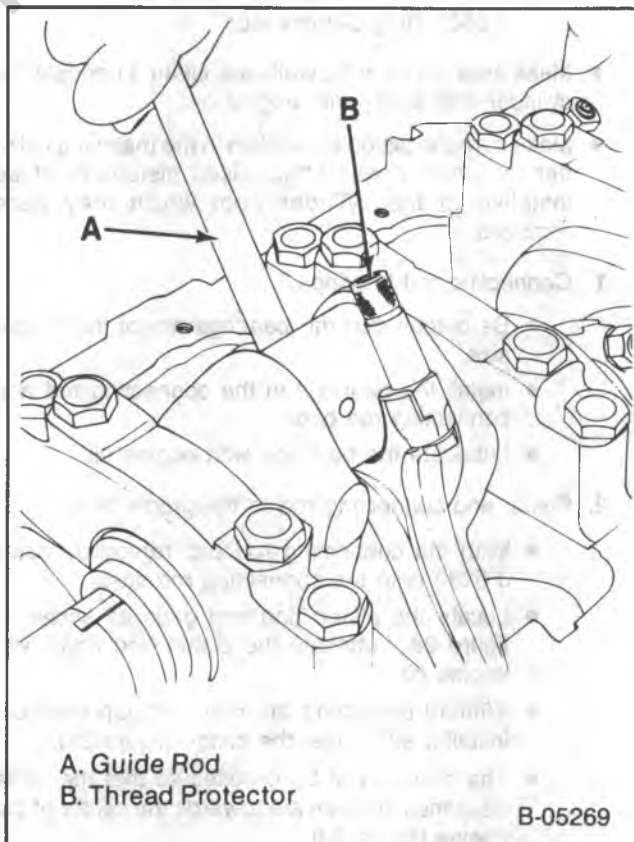
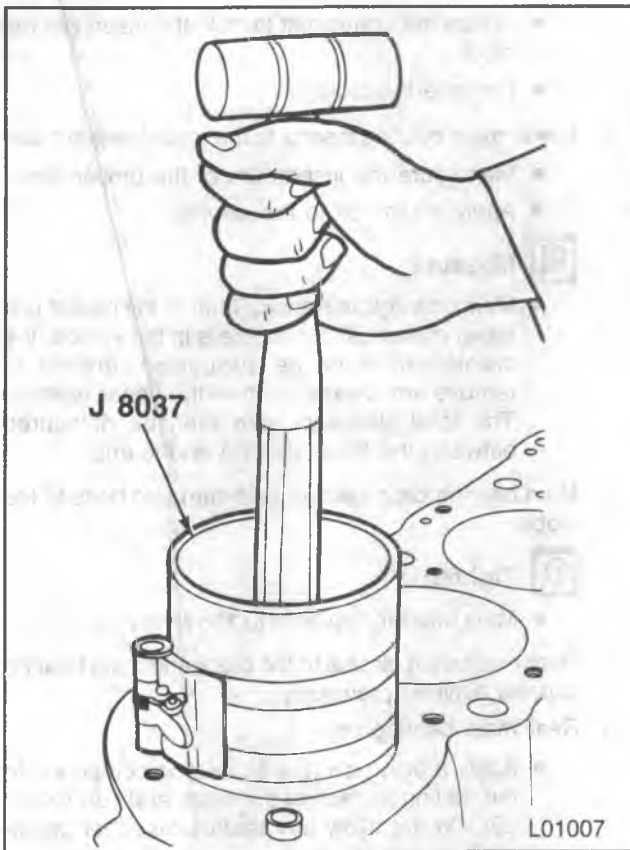

Figure 27 — Replacing the Connecting Rod and Piston Using J 5239
Figure 29 — Installing the Piston
↔ Remove or Disconnect (Figure 27)
- Attach J 5239 to the connecting rod bolts (figure 27).
Install or Connect (Figures 27 through 31)
- Without disturbing the ring end gap location, install J 8037 over the piston (figure 29).
- Place the piston in its matching bore. Using light blows with a hammer handle, tap the piston down into its bore (figure 29). At the same time, from beneath the vehicle guide the connecting rod to the crankpin with J 5239 (figure 27). Hold the ring compressor against the block until all rings have entered the cylinder bore.